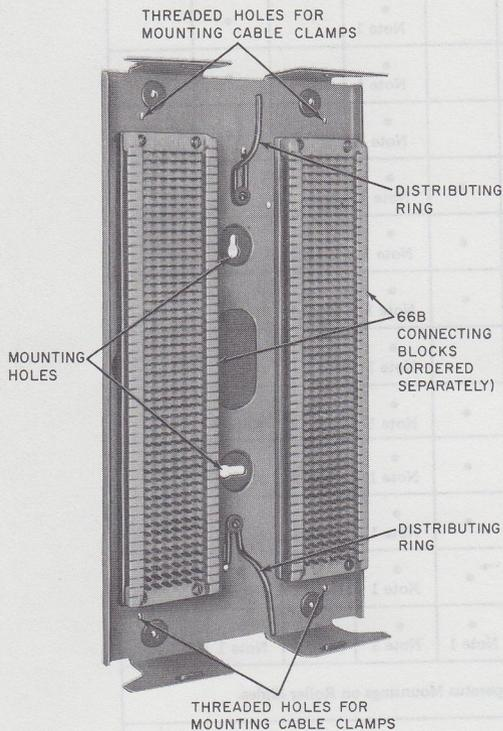

Fig. 2—Typical 115-Type Apparatus Box with Distributing Rings and Connecting Blocks Installed
2.03 The 115-type apparatus box (Fig. 2) is intended for use as a terminating and distributing point in buildings. It is equipped with a snap-on cover, distributing ring(s), and screws for mounting 66-type connecting blocks which must be ordered separately. For further information on the 115-type apparatus box, refer to Sections 461-604-101, 461-604-102, and 463-121-115.